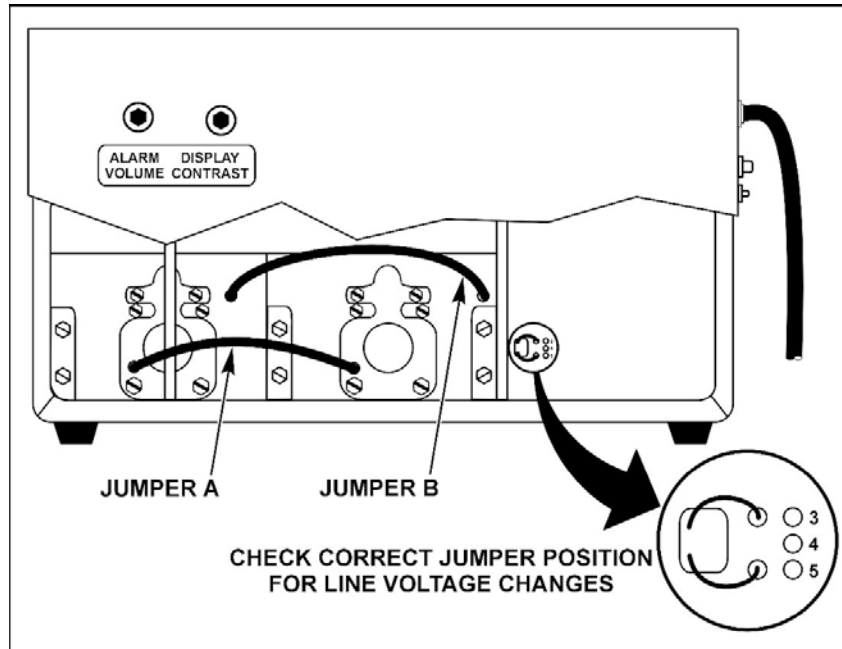

Figure 7-1. Line Voltage and Capacitor Bank Jumpering
To disconnect the right half of the capacitor bank from the left half, refer to figure 7-1 and proceed as follows:
- The taps on Charging Transformer T3, located on the floor of the power supply housing (refer to figure 7-1).